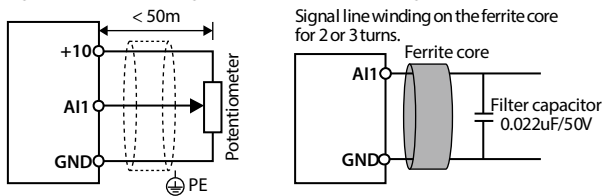
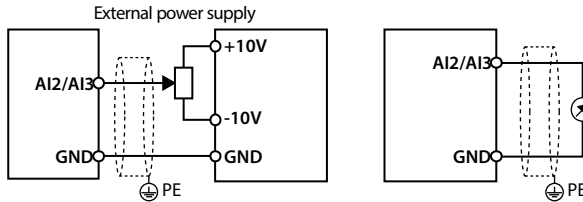

Figure 4-7 AI1 connection
Figure 4-8 AI2 wiring
The AI1 is voltage input and the range is 0 - 10V, as shown in Figure 4-7.
2. In serious interference occasions, the analogue input signal should add filter capacitor and ferrite core, as shown in Figure 4-7.
AI2/AI3 are selected as voltage input and the range is -10 - +10V. When selecting internal +10V of HD50, refer to Figure 4-7; Selecting +/-10V external supply, refer to Figure 4-8.
AI2/AI3 are selected as current input and the range is 0 - 20mA, refer to Figure 4-8.